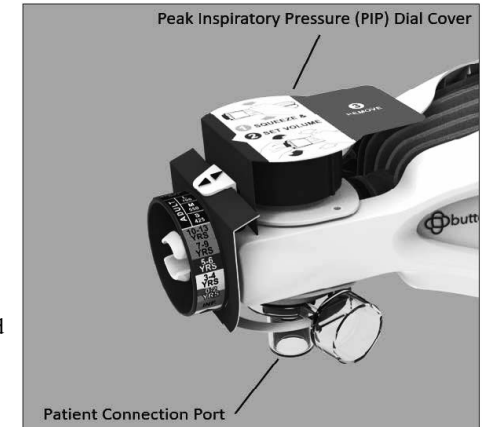

Figure 2: Isolation view of PIP Dial Cover and Patient Connection Port
1. **Lift** cover from PIP dial, if needed (see Figure 2).